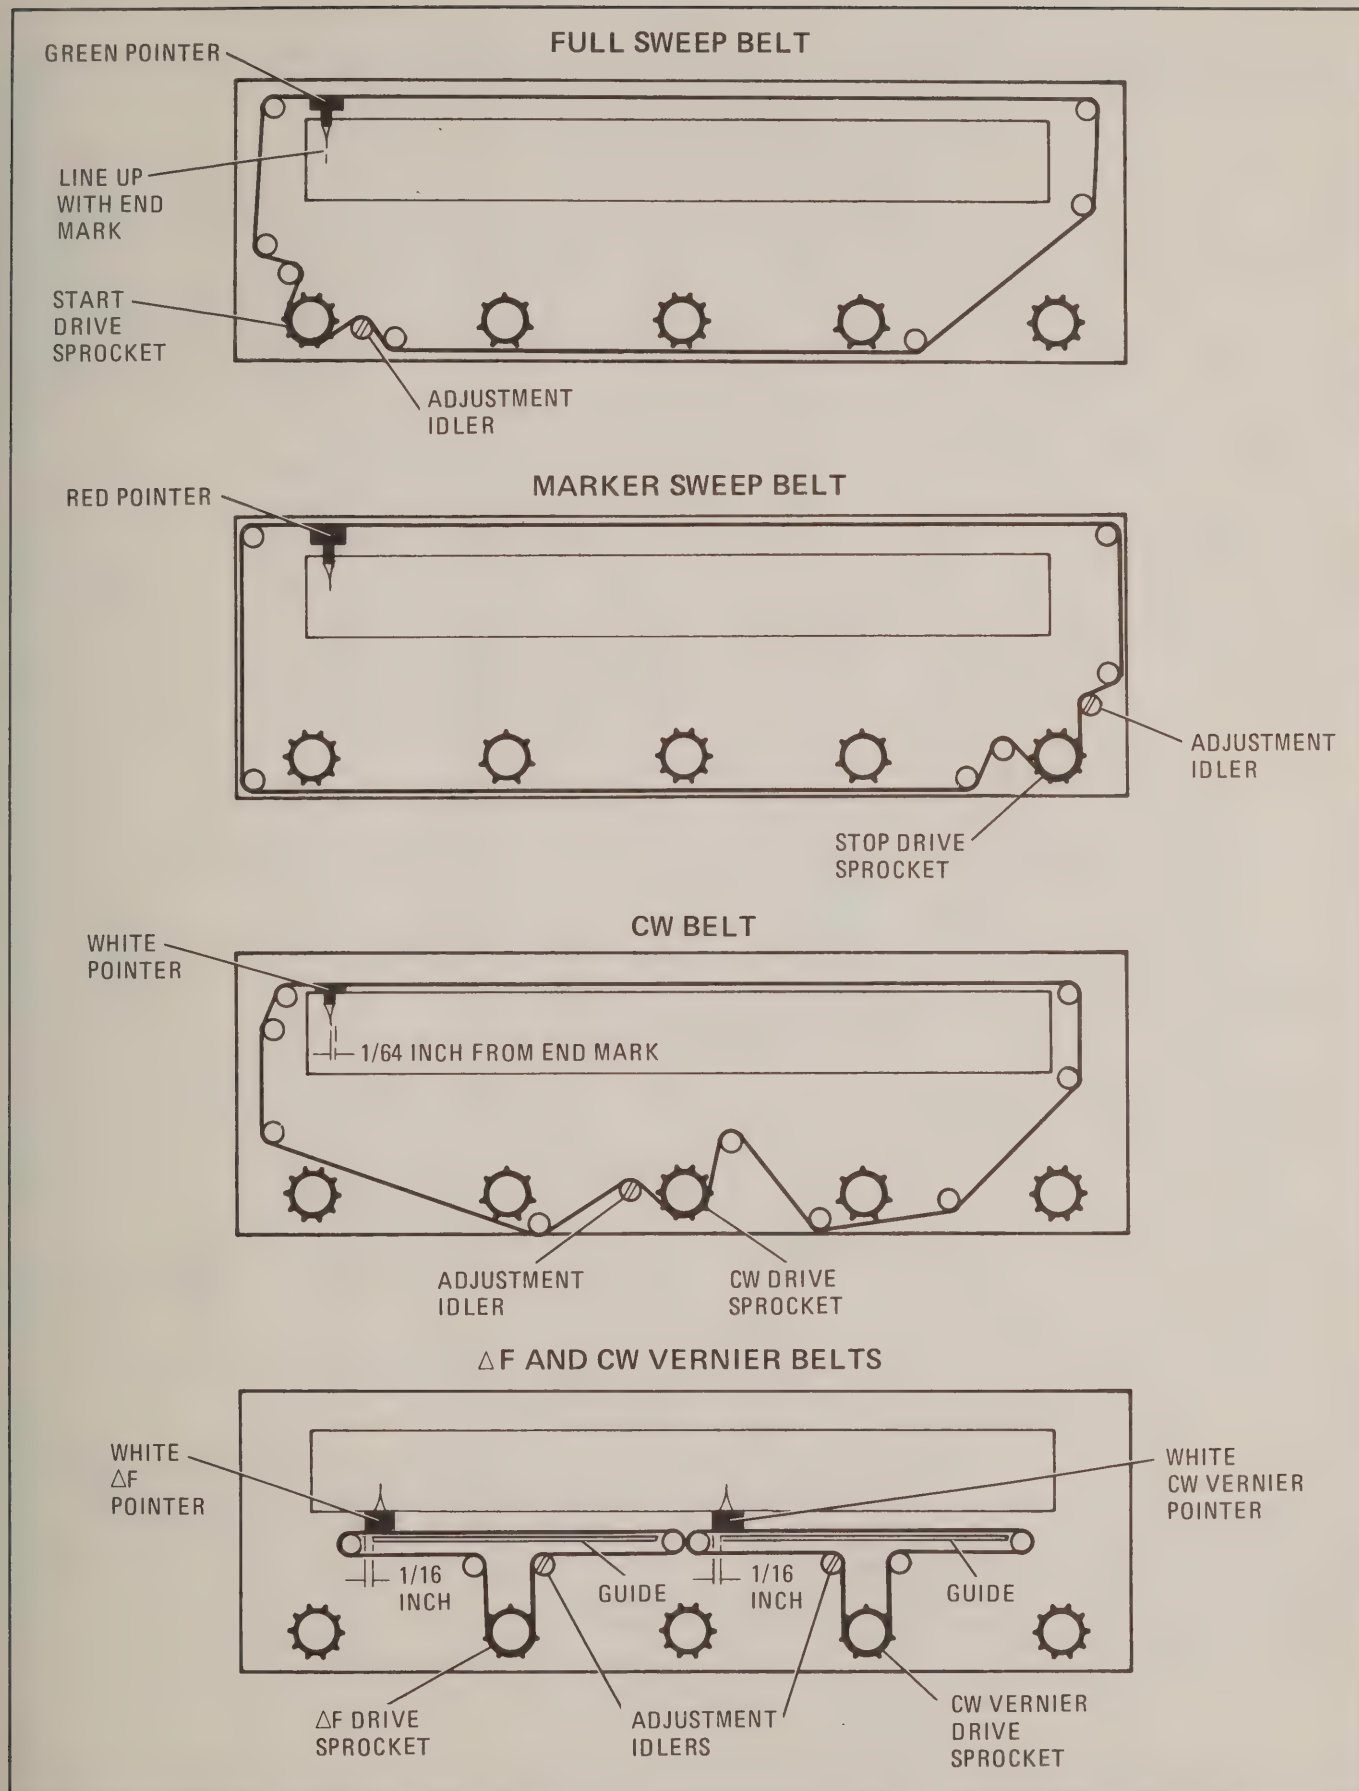

Figure 8-5. Pointer Belt Restringing Diagrams
- b. Loosen adjustment idler shown on restringing diagram in Figure 8-5 for belt being replaced.
5. Restring belt as shown in Figure 8-5 and tighten belt with adjustment idler.
2. Restring belt as shown in Figure 8-5 and tighten belt with adjustment idler.